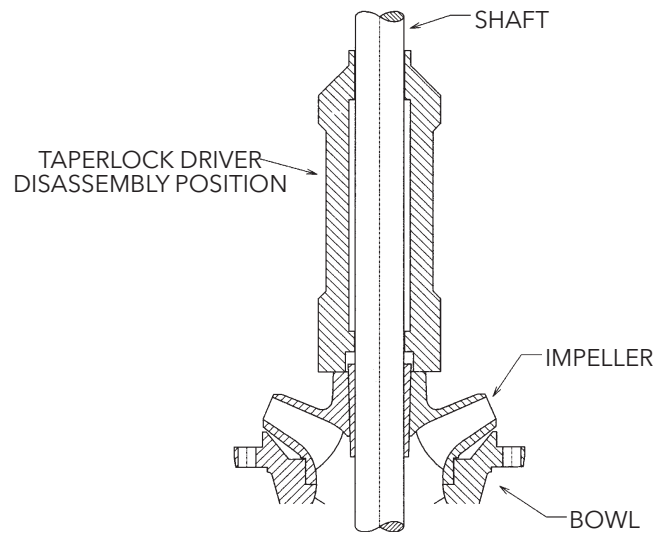

Figure 15
3. Pull shaft out as far as possible and strike impeller hub by using a taperlock driver or equivalent to drive the impeller off the taperlock (See Figure 15).